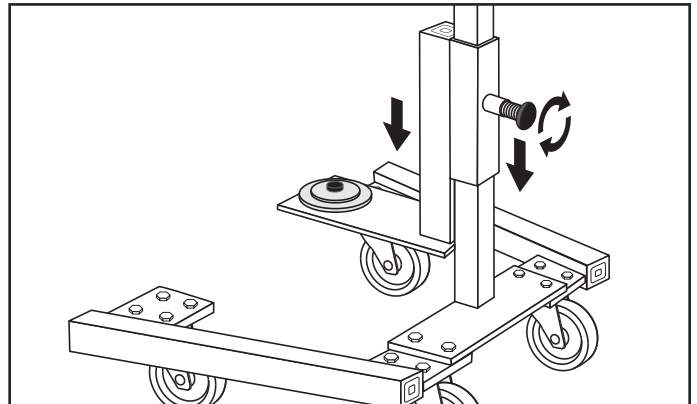

Figure 3
2. Place Film Holder over top of post and slide all the way down. (See Figure 3)